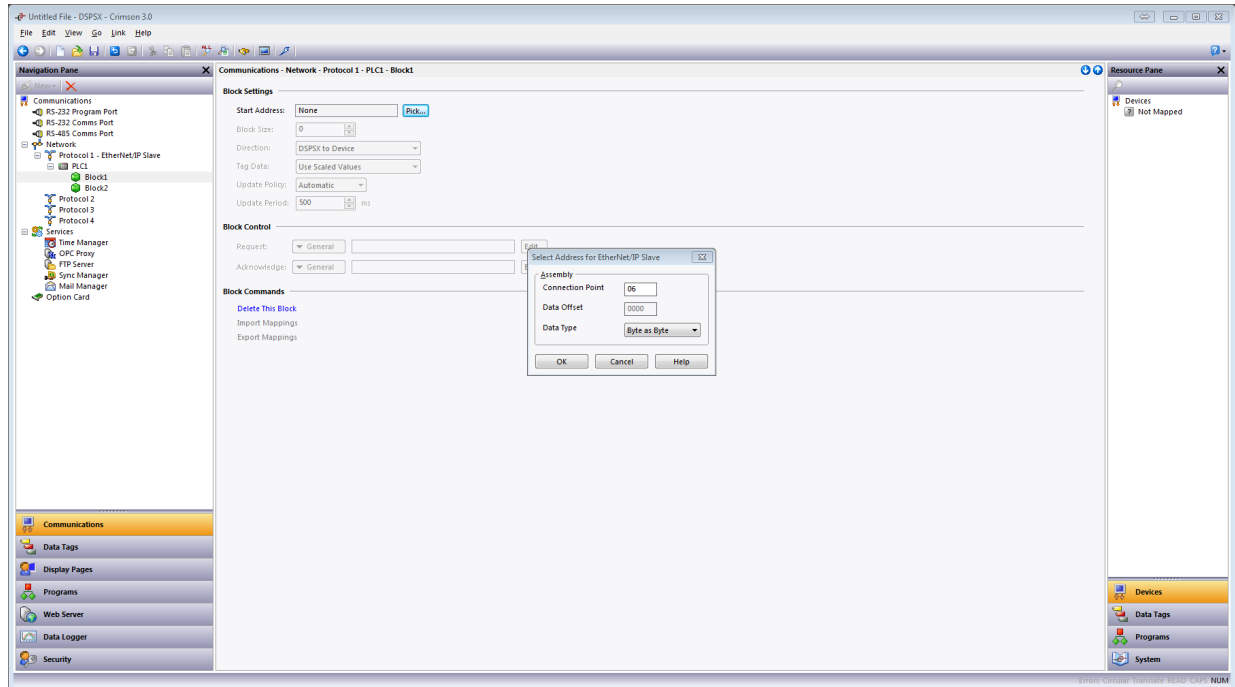

Figure 6.
1. Referring to Figure 6, go to the Navigation Pane and select *Block1*; the Communications - Network - Protocol 1 - Block1 popup appears. Configure Block 1 as a Read block by performing the following: